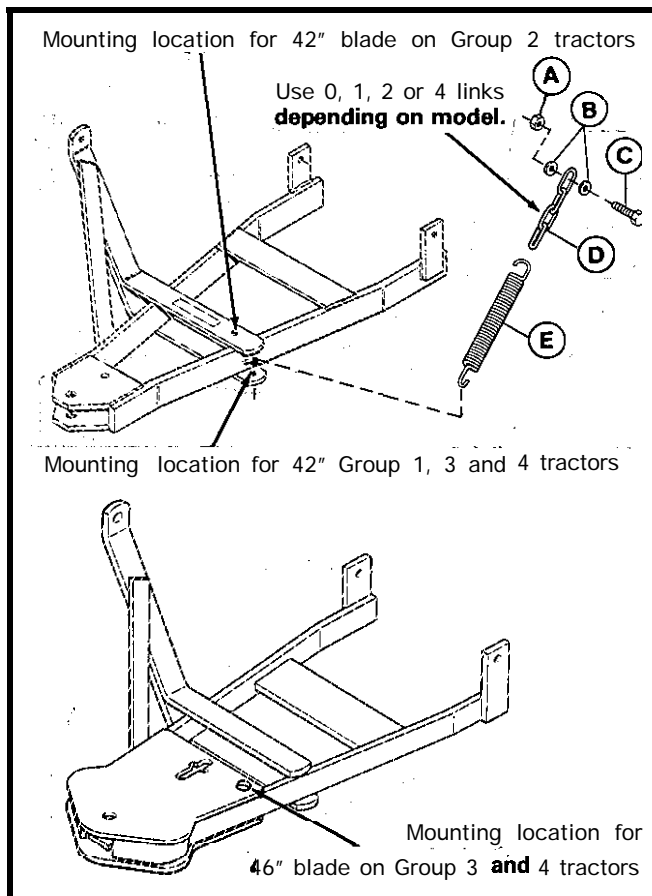

Figure 1. Kit Parts
6. Assemble the chain (D, figure 1) to the tractor as follows: